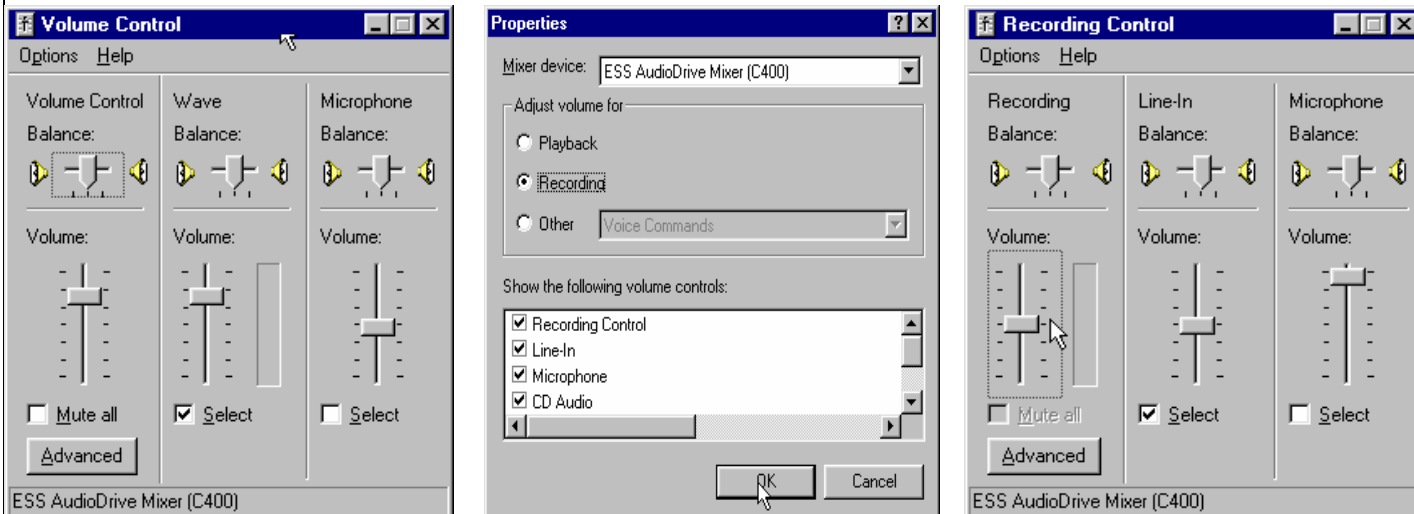

Figure 6. a) The Windows mixer.
- 2) Open the Windows sound mixer (double click on the yellow speaker icon)—see Figure 6. Deselect everything but Wave. Set the Wave and Volume sliders to mid-range.